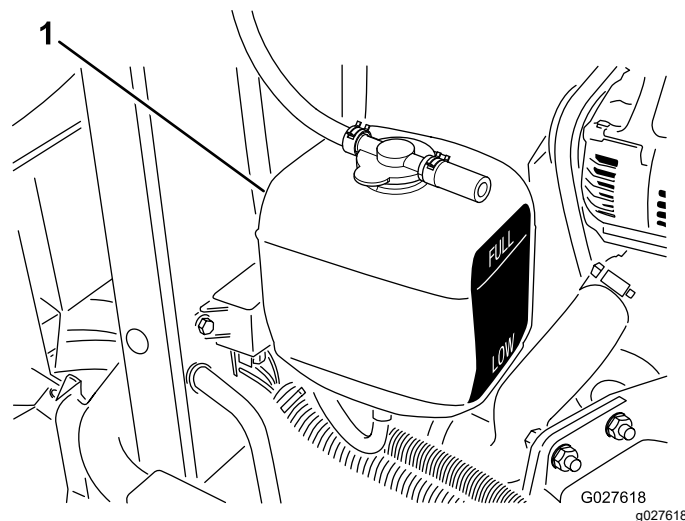

Figure 75
3. Check the coolant level in the expansion tank (Figure 75).